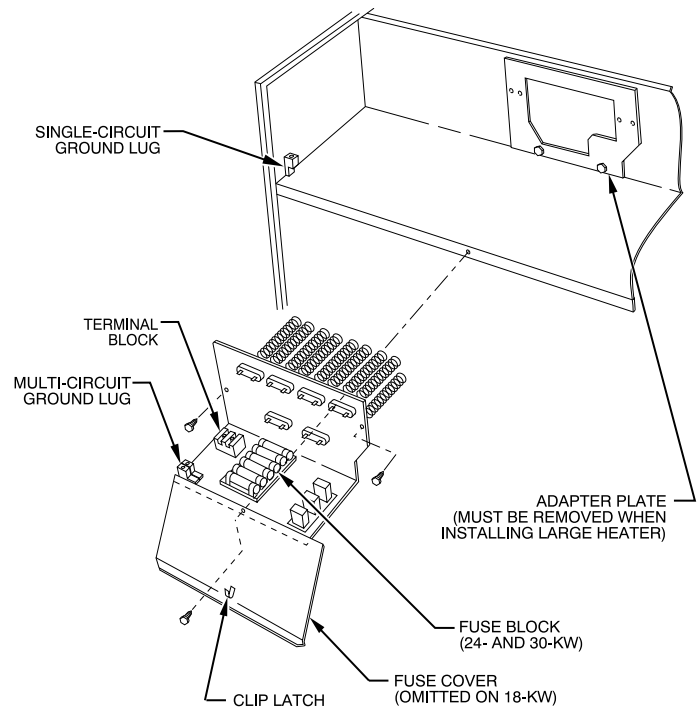

Fig. 1 – Installation of 18-, 24-, and 30-kW Model Heaters
3. Disconnect 2 power wires (black and yellow pigtail leads) from PCB or wire harness (if applicable) and discard. Wires may be part of a plug assembly or attached to terminals L1 and L2. Remove cooling control plate from fan coil (if equipped). For 18-, 24-, and 30-kW heaters, remove adapter plate (Fig. 1).
5. Attach heater control plate to fan coil using 2 screws provided. For 18-, 24-, and 30-kW heater models, attach front of heater to fan deck using third screw (Fig. 1).
Fuse assembly is mounted on heater. Be sure fuse cover is closed by engaging clip latch on unit top panel (Fig. 1)